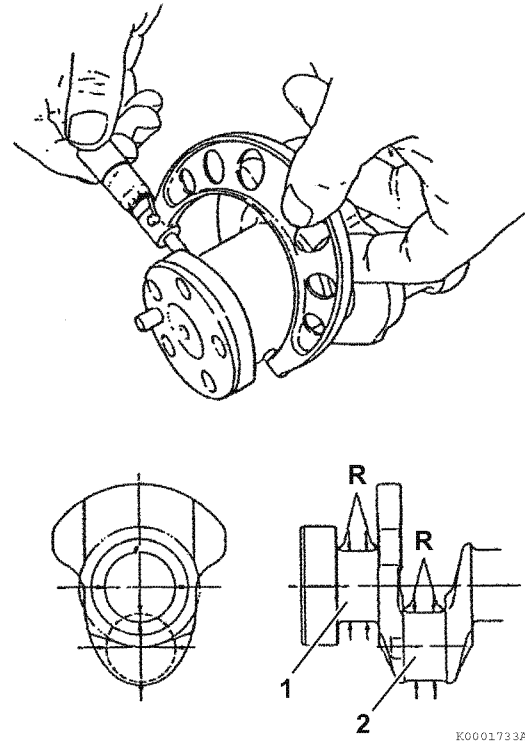

Figure 6-77
5. Measure the outside diameter of each crankpin (2, **Figure 6-77**) and main bearing journal (1, **Figure 6-77**). *See Crankshaft on page 6-8 for specifications.* Take measurements at several places around each bearing surface. If not within specification, grind the journals and install undersize bearings, or replace the crankshaft. Record the measurements.